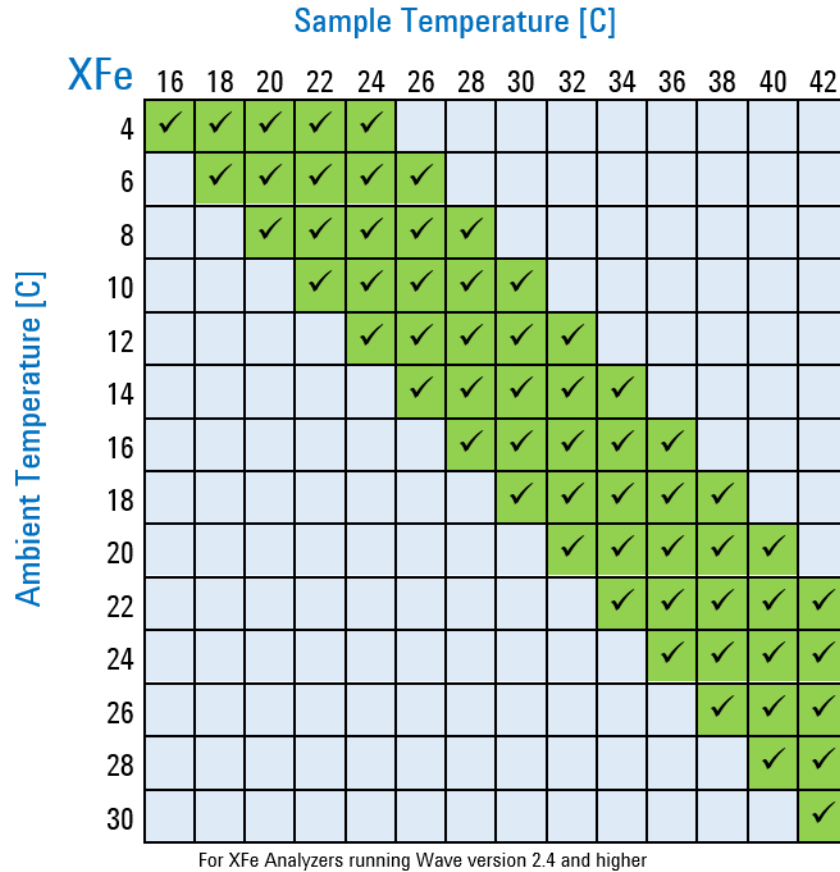
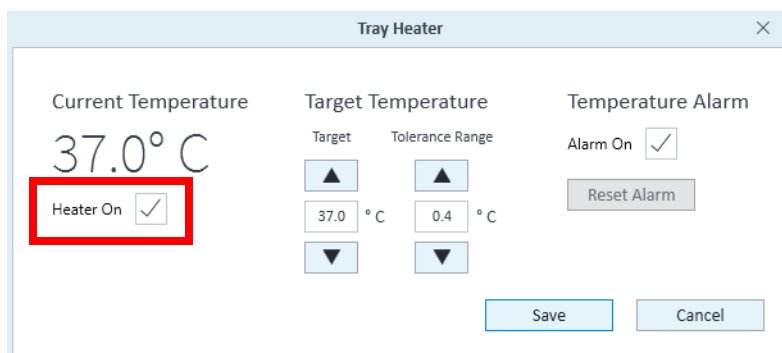

Figure 35 Temperature chart
Figure 37 Tray Heater window
Agilent Seahorse XFe Analyzers have been validated to deliver desired target temperatures in the range of 16-42 °C provided the ambient room temperature is 12-20 °C below the target temperature, and in the validated operational room temperature range of 4-30 °C. To understand the relationship between the sample temperature and ambient temperature, see Figure 35 on page 36 for the temperature chart.
- If required to set up the XFe Analyzer in cold room, avoid direct fan sources. (See Figure 35 on page 36.)
To adjust the Target Temperature (set point) using the up/down arrows, click on the **Temperature Widget** to display the Tray Temperature window. (Figure 37 on page 37.) Ensure your ambient conditions support the desired target temperature (12-20 °C above ambient). Refer to the temperature chart shown in Figure 35.